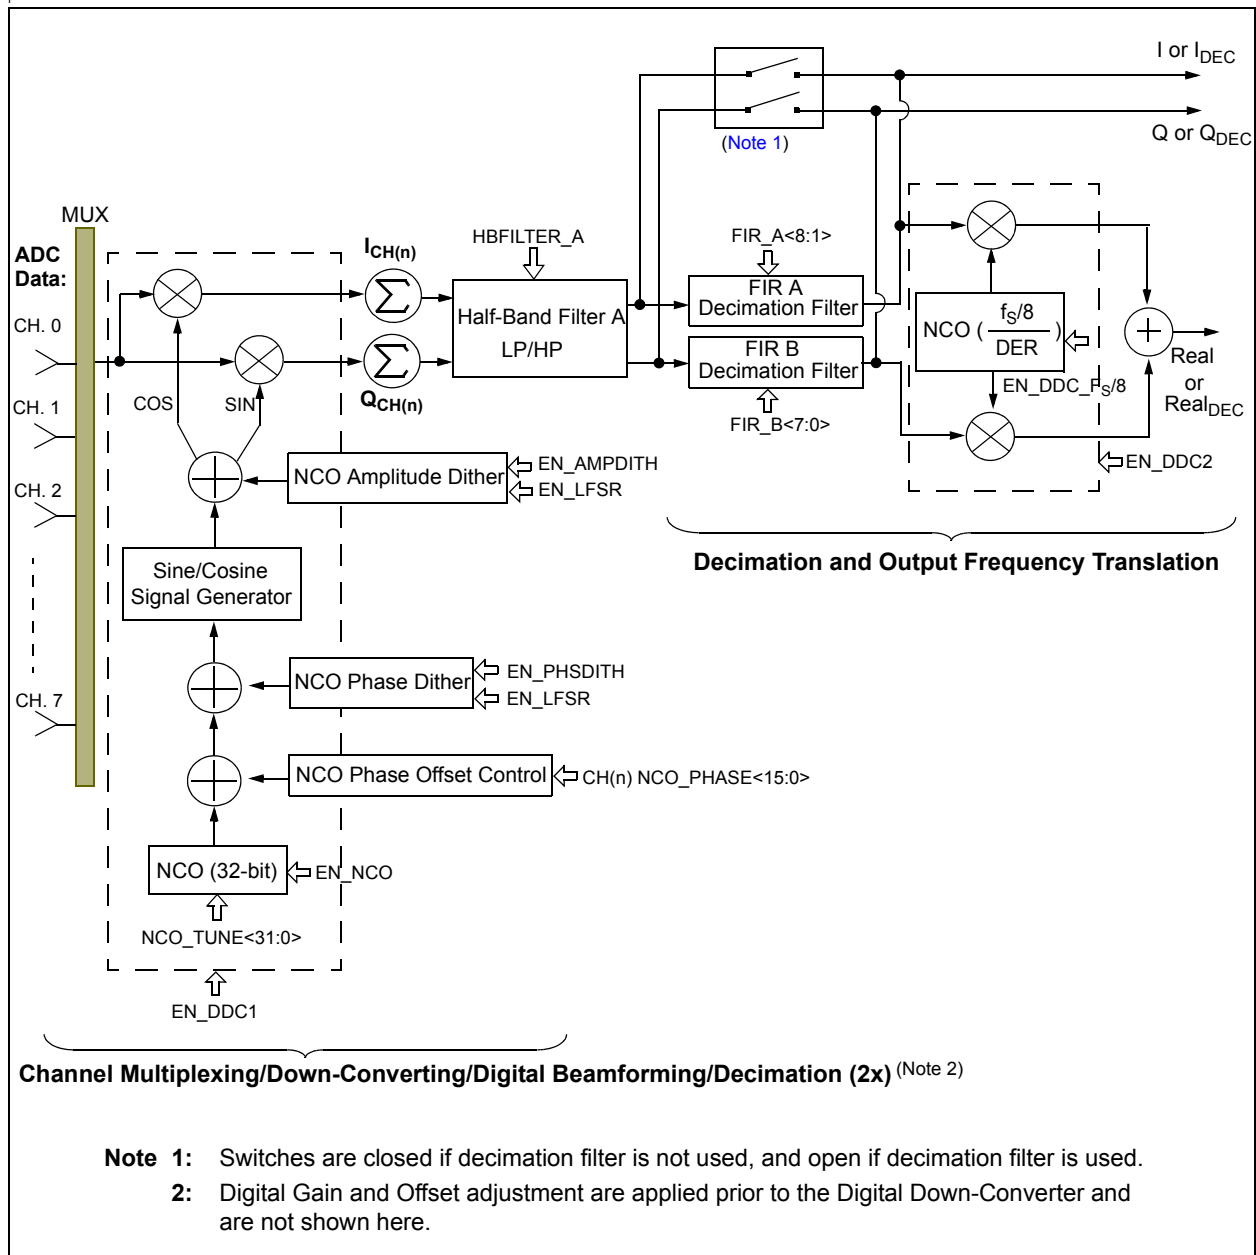

FIGURE 4-23: Simplified Block Diagram of CW Beamforming and I/Q Signal Processing - Available in MCP37D31/21-200 only.
Along with the beamforming, many modern medical ultrasound devices support Doppler imaging which processes phase information in addition to the classical magnitude detection (for brightness imaging). The ultrasound Doppler signal processing is used to determine movement in the body as represented by blood flow, which can help to diagnose the functioning of a heart valve or blood vessel, etc. In a traditional ultrasound system, all of these functions are typically accomplished with discrete components. Figure 4-23 shows an example of an ultrasound system implementation using various specialized components.
- **Down-Conversion for each channel** with a unique phase of the same NCO frequency prior to summing the eight channels as shown in Figure 4-23.